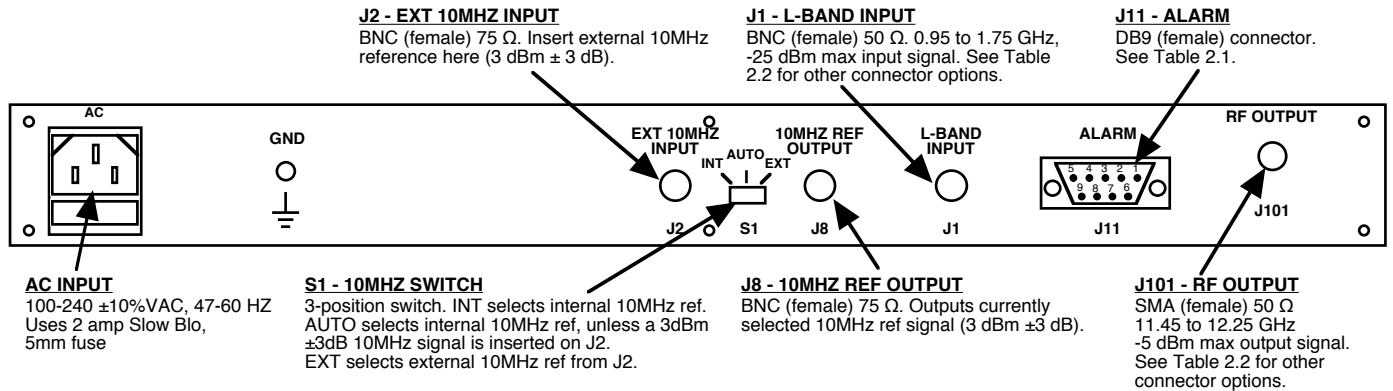

FIGURE 2.1 2115-114 Rear Panel I/O's
2.2 Rear Panel Input/Output Signals - Figure 2.1 shows the input and output connectors on the rear panel.
1. Connect a -40 dBm to -25 dBm signal to L-BAND INPUT, J1 (Figure 2.1).
6. Select either INT (for internal 10MHz ref), AUTO (for internal 10MHz ref UNLESS a external 10MHz, +3 dBm signal is connected to J2), or EXT (for external 10MHz, +3 dBm ref that is inserted at J2) on rear panel switch S1 (Figure 2.1).
8. Check that a 10MHz, +3 dBm \pm 3 dB signal is present at the 10MHz REF OUTPUT (J8) (Figure 2.1).